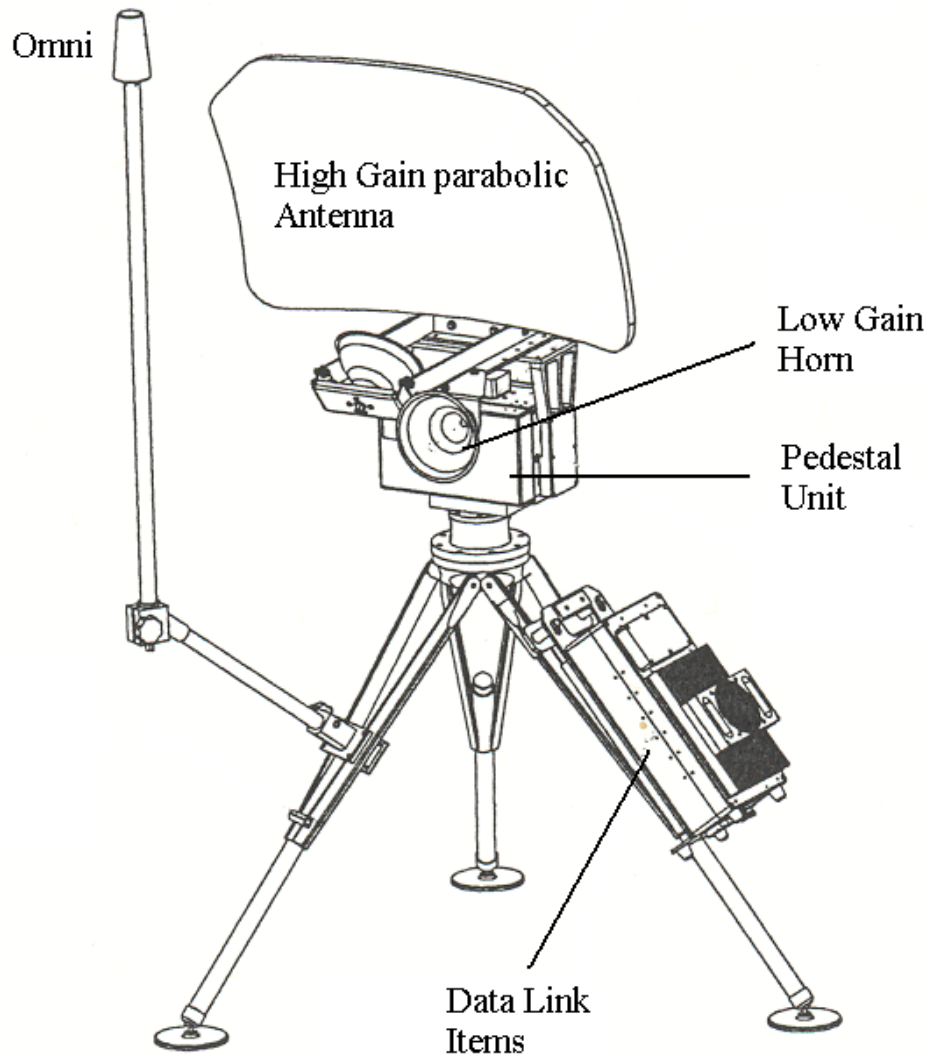

Figure 2
The GCS utilizes 2 command and control uplinks to communicate with the air vehicle. The primary uplink operates in the S – Band, (b) (3) and is tunable in (b) (3) steps. This datalink is comprised of the baseband and a subcarrier. Command and control of the air vehicle and payload are accomplished using the baseband. A subcarrier provides an independent (non-flight critical) RS-232 compatible uplink for project support. The secondary uplink provides backup air vehicle and payload command and control, and operates in the UHF – Band at (b) (3) and is frequency fixed. The air vehicle utilizes 1 telemetry downlink (L - Band (b) (3) MHz tunable in (b) (3) steps) to relay video, report UAV health and position information, and a RS-232 compatible downlink, for project support, to the GCS. The L and S – Band datalinks in the GCS are housed within the Ground Data Terminal (GDT), which also consists of three dual band (L and S – Band) antennas and a 360° rotating pedestal unit, see figure 2. The antenna array includes an omni, low gain horn, and a high gain parabolic antenna. The UHF uplink is housed in the payload control panel and uses an omni directional antenna. The datalinks for this system have been flight tested under NAVAIR Test Plan UAV-TP-024/03 to a range of (b) (3) The maximum range of this system has yet to be determined.